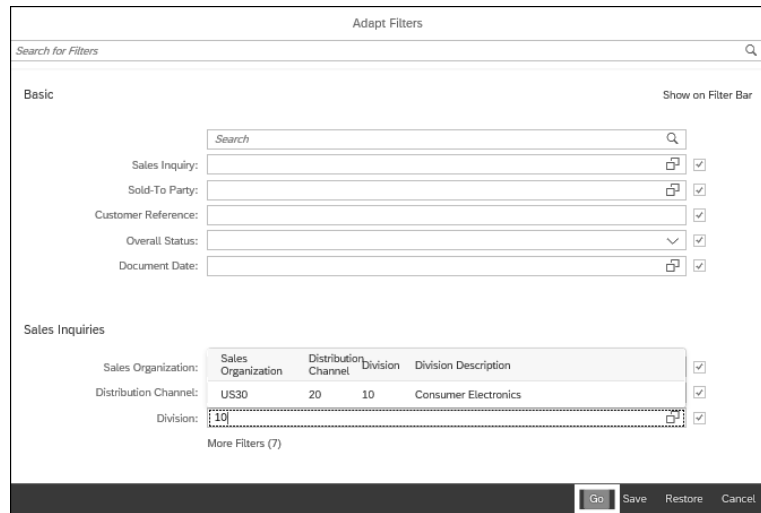

Figure 4.56 Filters Now Adapted
6. The **Adapt Filters** dialog now reappears with your selected search parameters. Enter the desired sales area data to search by, and then click **Go**, as shown in Figure 4.56.